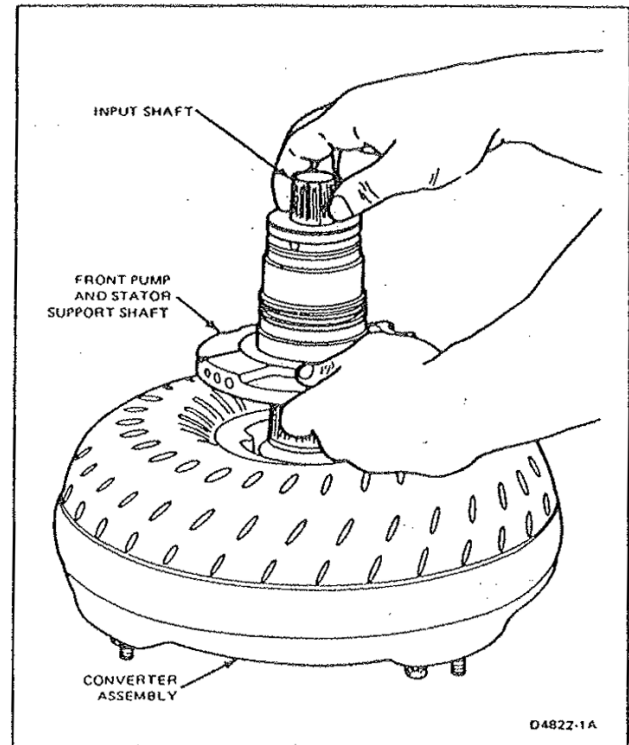

FIG. 37 Stator to Turbine Interference Check—C6
3. Install the input shaft, engaging the splines with the turbine hub (Fig. 37).